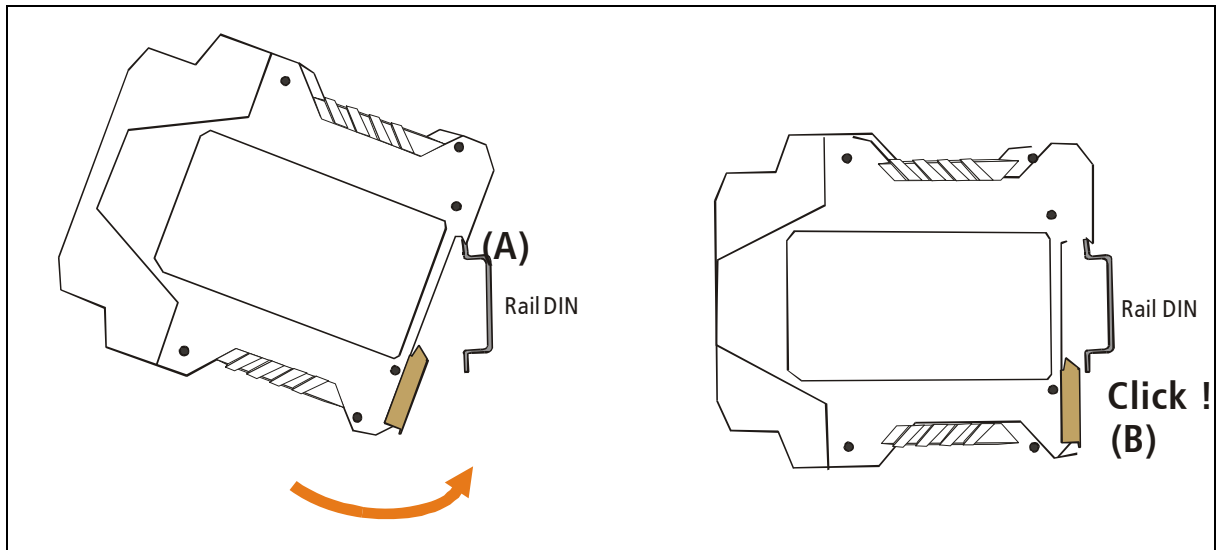

Figure 5 – DIN rail Mounting
To mount the device to the DIN rail (as shown in figure 5), tip the upper part of the device towards the rail and place the slot on the edge of the rail (A). Press firmly the device towards the rail until it is fixed. You'll hear it click when it is done (B).